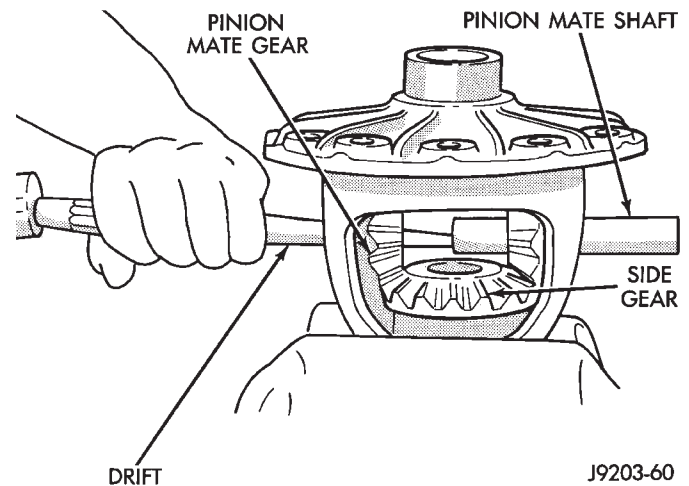

Fig. 8 Mate Shaft Removal
(5) Remove the pinion gear mate shaft with a drift and hammer (Fig. 8).